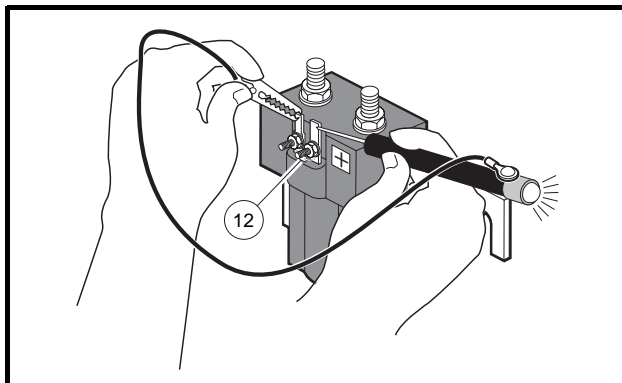

Figure 11-8 Diode Test – Probe Position One
- 3.1. Place the probe end of the tester on the small terminal of the solenoid marked positive (+) and place the alligator clip of the tester on the wire on the other small activating coil terminal (**Figure 11-8, Page 11-18**). The tester should illuminate, indicating continuity.